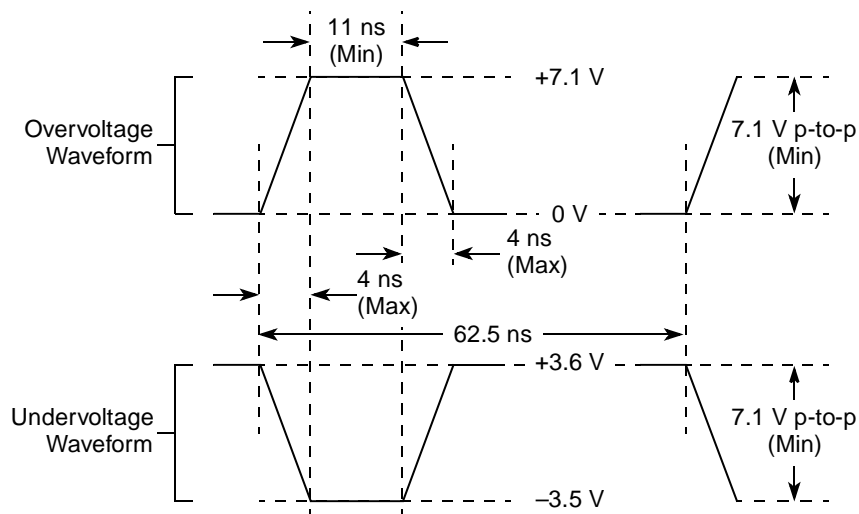

Figure 3. Maximum AC Waveforms on PCI Interface for 3.3-V Signaling
- $OV_{IN}$  on the PCI interface can overshoot/undershoot according to the PCI Electrical Specification for 3.3-V operation, as shown in Figure 3.
Figure 3 shows the undershoot and overshoot voltage of the PCI interface of the MPC8349E for the 3.3-V signals, respectively.